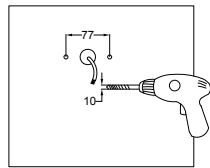

Figure 17
Step 1: Drill holes on the wall as shown in (Figure 17).